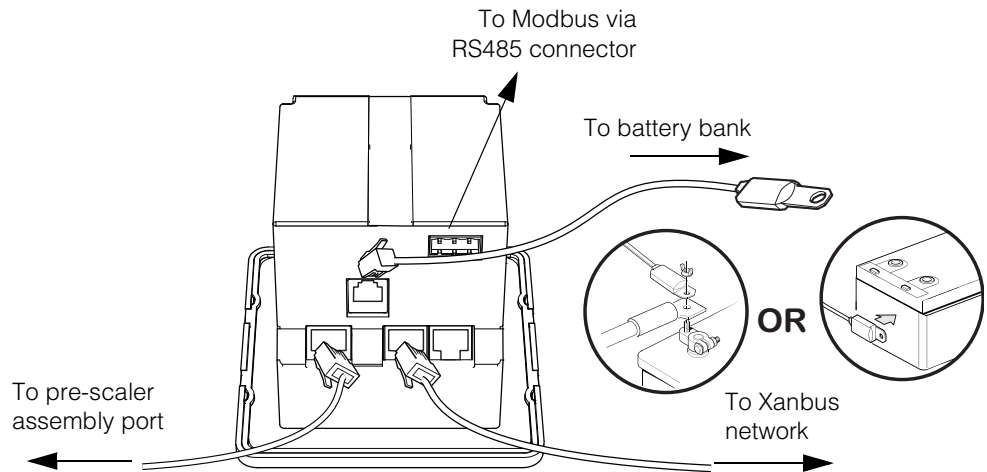

Figure 2-9 Wiring the Battery Monitor
The Pre-scaler board is connected to the Battery Monitor using the orange RJ45 cable provided. Plug the RJ45 cable directly to the port on the Pre-scaler board then to the Battery Monitor as indicated in Figure 2-9, “Wiring the Battery Monitor” on page 2-11.
1. Connect the RJ11 connector to the back of the Battery Monitor as indicated in Figure 2-9, "Wiring the Battery Monitor" on page 2-11.